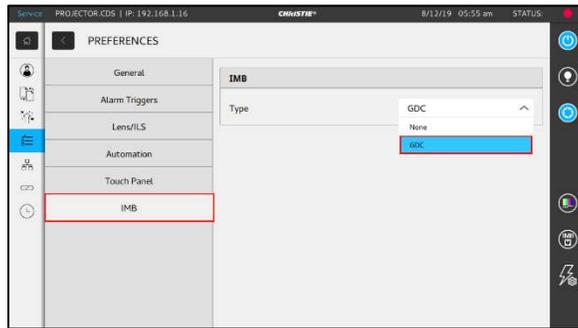

Figure 34: Preferences
11. Go back to the main menu. Select **Service Setup** → **Preferences** (as shown in **Figure 34**).